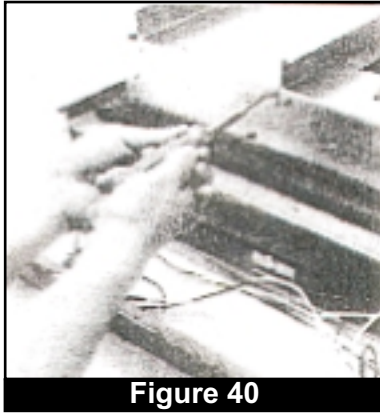

Figure 40
2. Remove the fan blower motor assembly cover (on the left side of module as you are facing the front panel) by removing the two front and two rear screws with a medium (6") flathead screwdriver. (Fig. 40)